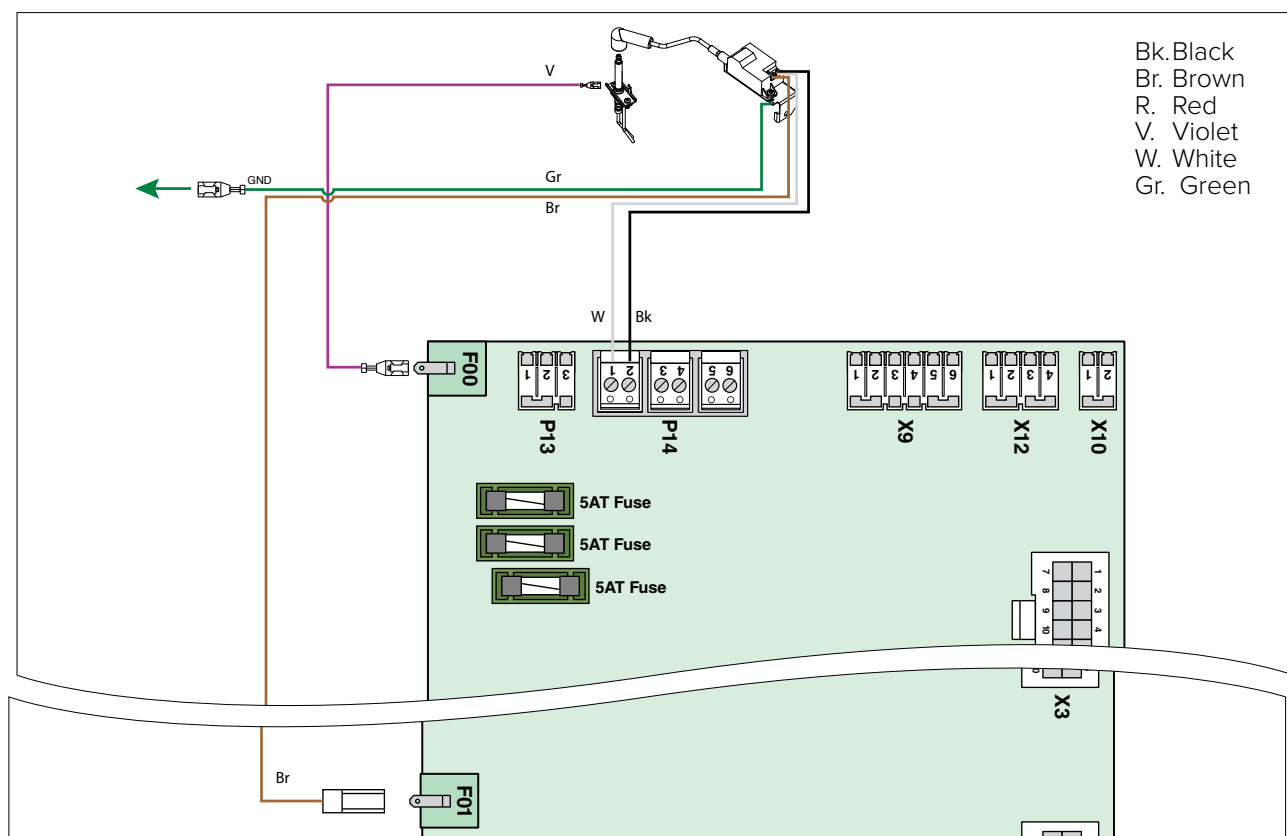

Fig. 18 - Control Module Wiring - Post-modification
6. Reconnect all wire terminals to the new circuit board terminals, except P14, 1&2 (See *Fig. 18*).
8. Connect the spark generator power supply connector to the free receptacle of the P14 terminal (pins 1&2) of the Control Module (See *Fig. 18*).
9. Connect the violet ground wire to the ground connection on the Control Module, and on the ground lug located on the igniter bracket (See *Fig. 18*).
10. Connect the green ground wire to the spark generator bracket ground tab and to the ground tab located at the bottom left hand side of the chassis (See Fig. 18).